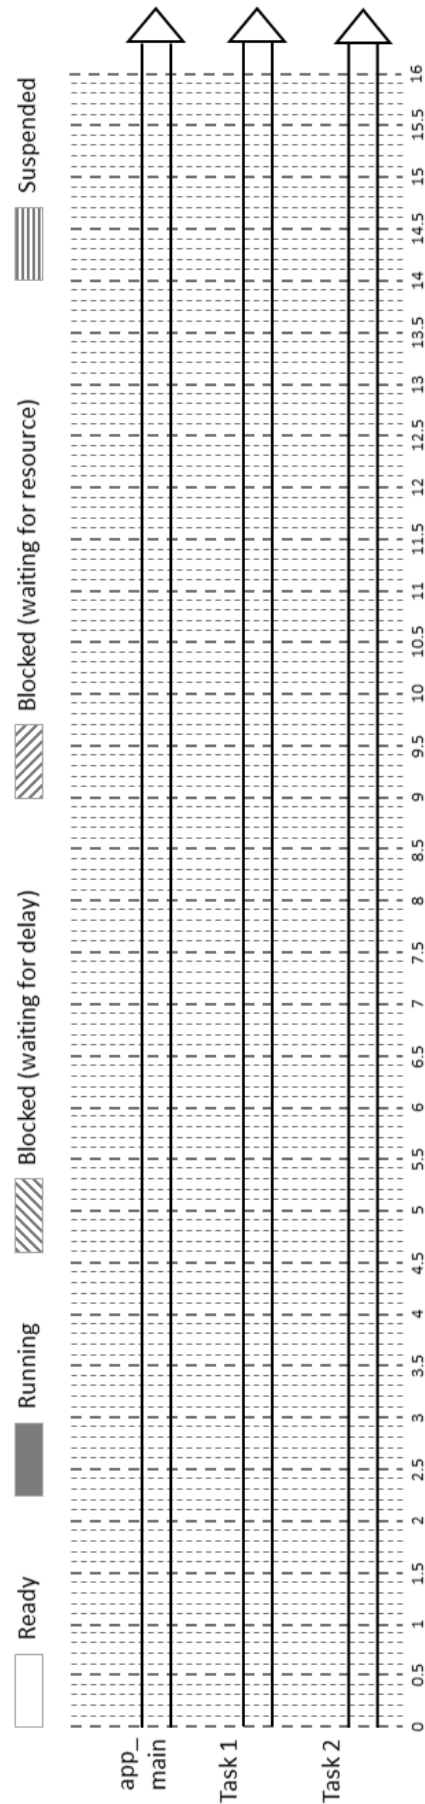

FIGURE 1.3 – Scheduling of 3 tasks with task delay.
18. Trace in the figure 1.3 the behavior of the *app\_main()*, *Task 1* and *Task 2* tasks until 160 ticks.